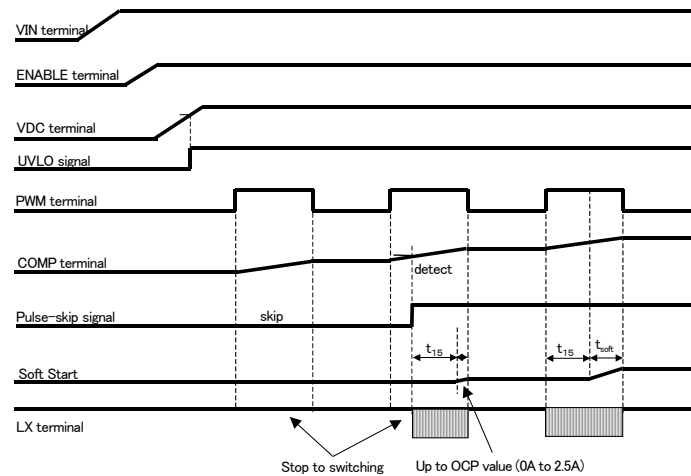

Figure 41. Soft Start
- Regulator (VDC) is operated after ENABLE=H. Inner circuit is operated after releasing UVLO. When boosting after releasing UVLO, soft start function is operated. Soft start circuit needs  $t_{15}$  (more than 5 $\mu$ s) such as Figure 41. Soft start is operated during Tsoft time. Set PWM width "H" until soft start finishes.